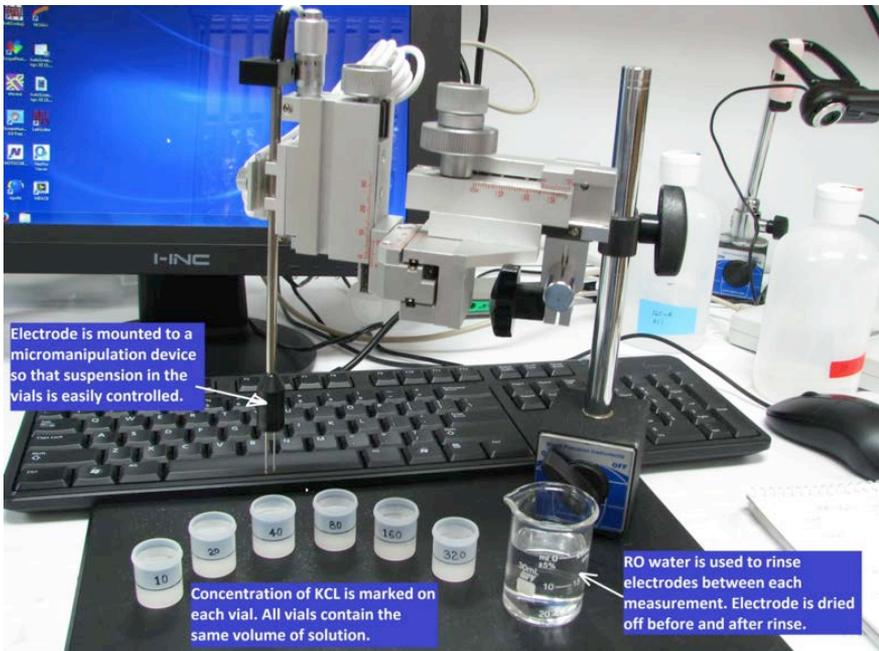

Fig. 34 — Setup for performance verification using concentrations of KCl.
5. Mount the electrode into a suitable holding device that will allow repeatable vertical positioning of the tip in the test vials. An economy micro-manipulator mounted to a magnetic stand with the X-axis oriented vertically works great for this purpose. A picture of the setup is shown on the next page (Fig. 34).